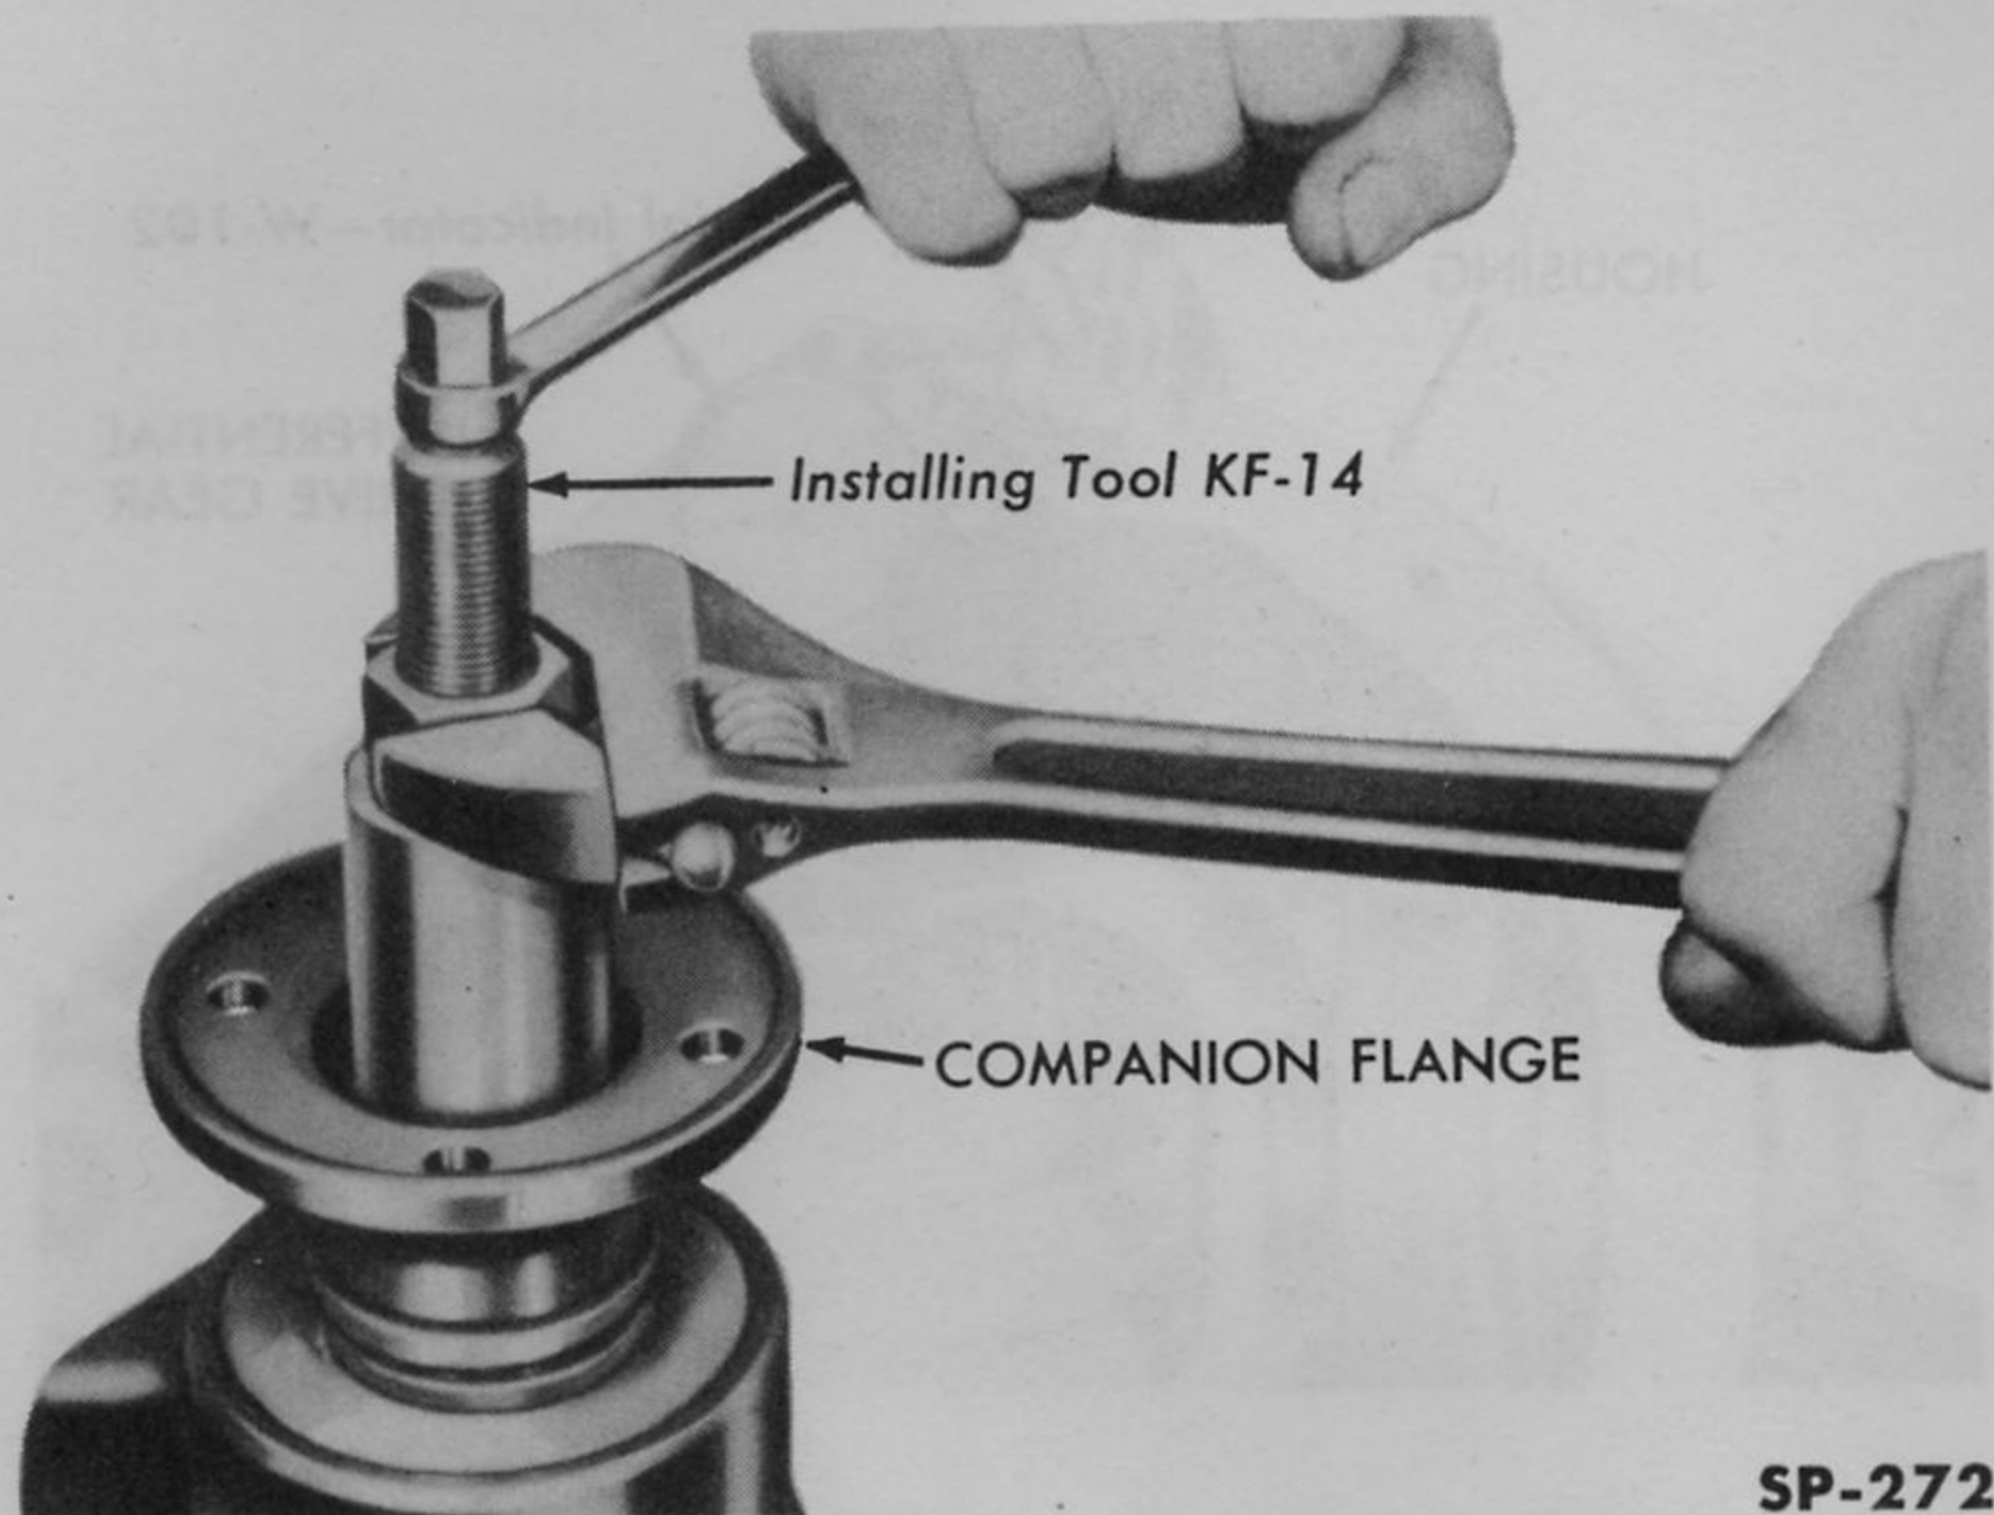

Fig. 272—Installing Companion Flange
5. Install the front bearing cone, oil slinger, companion flange or yoke (Fig. 272), flat washer and nut. Tighten the nut to 140–150 foot pounds torque.